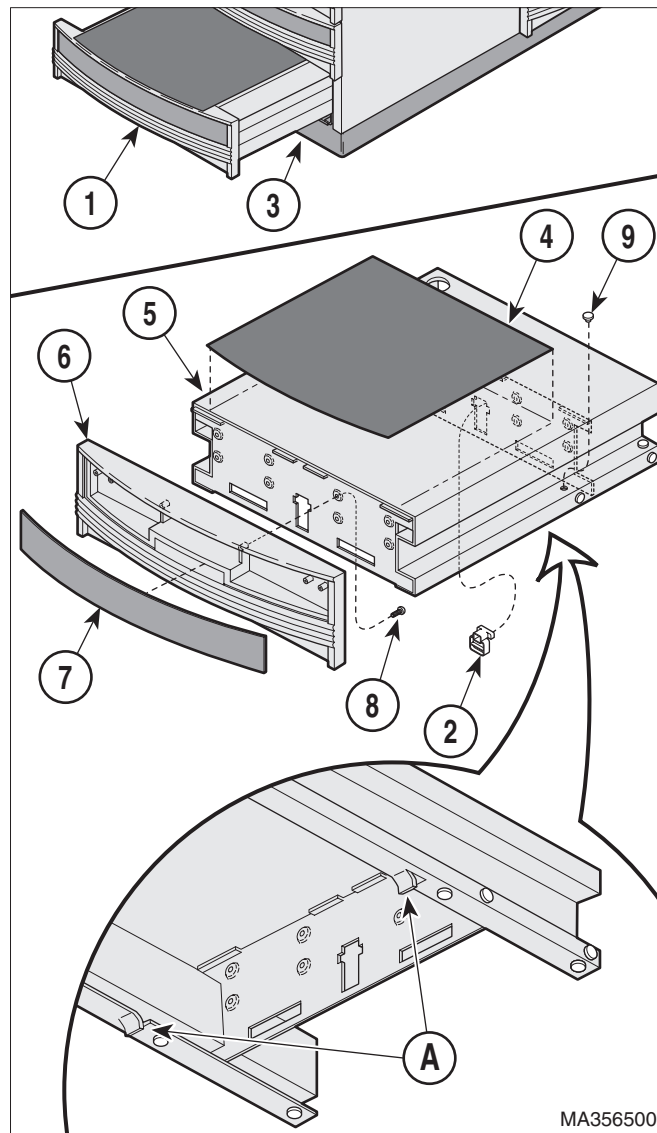

Figure 4-3. Step Assembly Removal / Installation
- (1) Unplug the table power cord from the wall outlet.
- (2) Pull out on the step assembly (1, Figure 4-3) until it is fully extended.
- (3) While lightly pulling the step assembly outward, reach beneath it and push the step stop (2) upward until it clears the base weldment (3) ; then remove the step assembly from the cabinet.
- (1) Remove the step covering (4, Figure 4-3) from the step assembly (5).
- (2) Reaching up through the opening at the bottom of the drawer front (6), push out on the insert panel (7) and remove it.
- (3) Remove the eight 6-18 x 1/2 inch screws (8) that secure the drawer front (6) to the step weldment (5) and remove the drawer front.
- (4) Clean the surface of the step weldment (5), to which the step covering (4) will be attached, with alcohol or a similar cleanser to insure the adhesive back of the step covering will bond to the surface of the step weldment.
- (5) Install the drawer front (6) to the step weldment (5) and secure with eight 6-18 x 1/2 inch screws (8).
- (7) Remove the protective cover from the step cover (4, Figure 4-3) and place it in position, aligned with the location marks.
Before installing the step assembly into the cabinet check that the lock tabs (A, Figure 4-3) on both sides of the bottom of the step weldment (5) are bent downward approximately 1/8 inch (0.318 cm) but **no farther** than the surface of the nylon stem bumpers (9) next to the tabs. These tabs (A) lock the step assembly in position when it is extended.
- (1) Inspect the lock tabs (A, Figure 4-3) and adjust if the step does not lock in place.
- (2) Place some petroleum jelly on the nylon stem bumpers (9).
When inserting step assembly into the cabinet the step will have to be lifted slightly to clear the lock tabs at the bottom of the step assembly. It may also be necessary to push up on the step stop (2, Figure 4-3) in order for the stop to clear the base weldment.
Extend the step assembly outward to insure it locks in place. If necessary readjust the lock tabs (A, Figure 4-3). Failure to insure the step assembly locks in place could cause injury to the users.